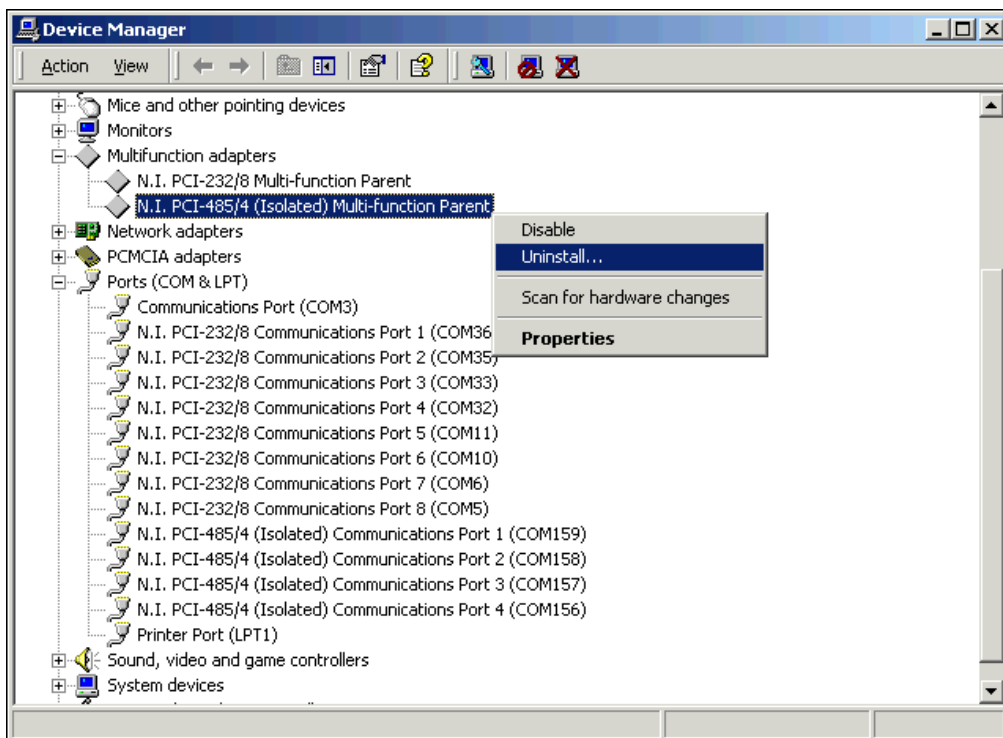

Figure C-1. Selecting an Interface to Uninstall
4. From the **Multi-function adapters** list, right-click the National Instruments interface that you want to uninstall, as shown in Figure C-1.